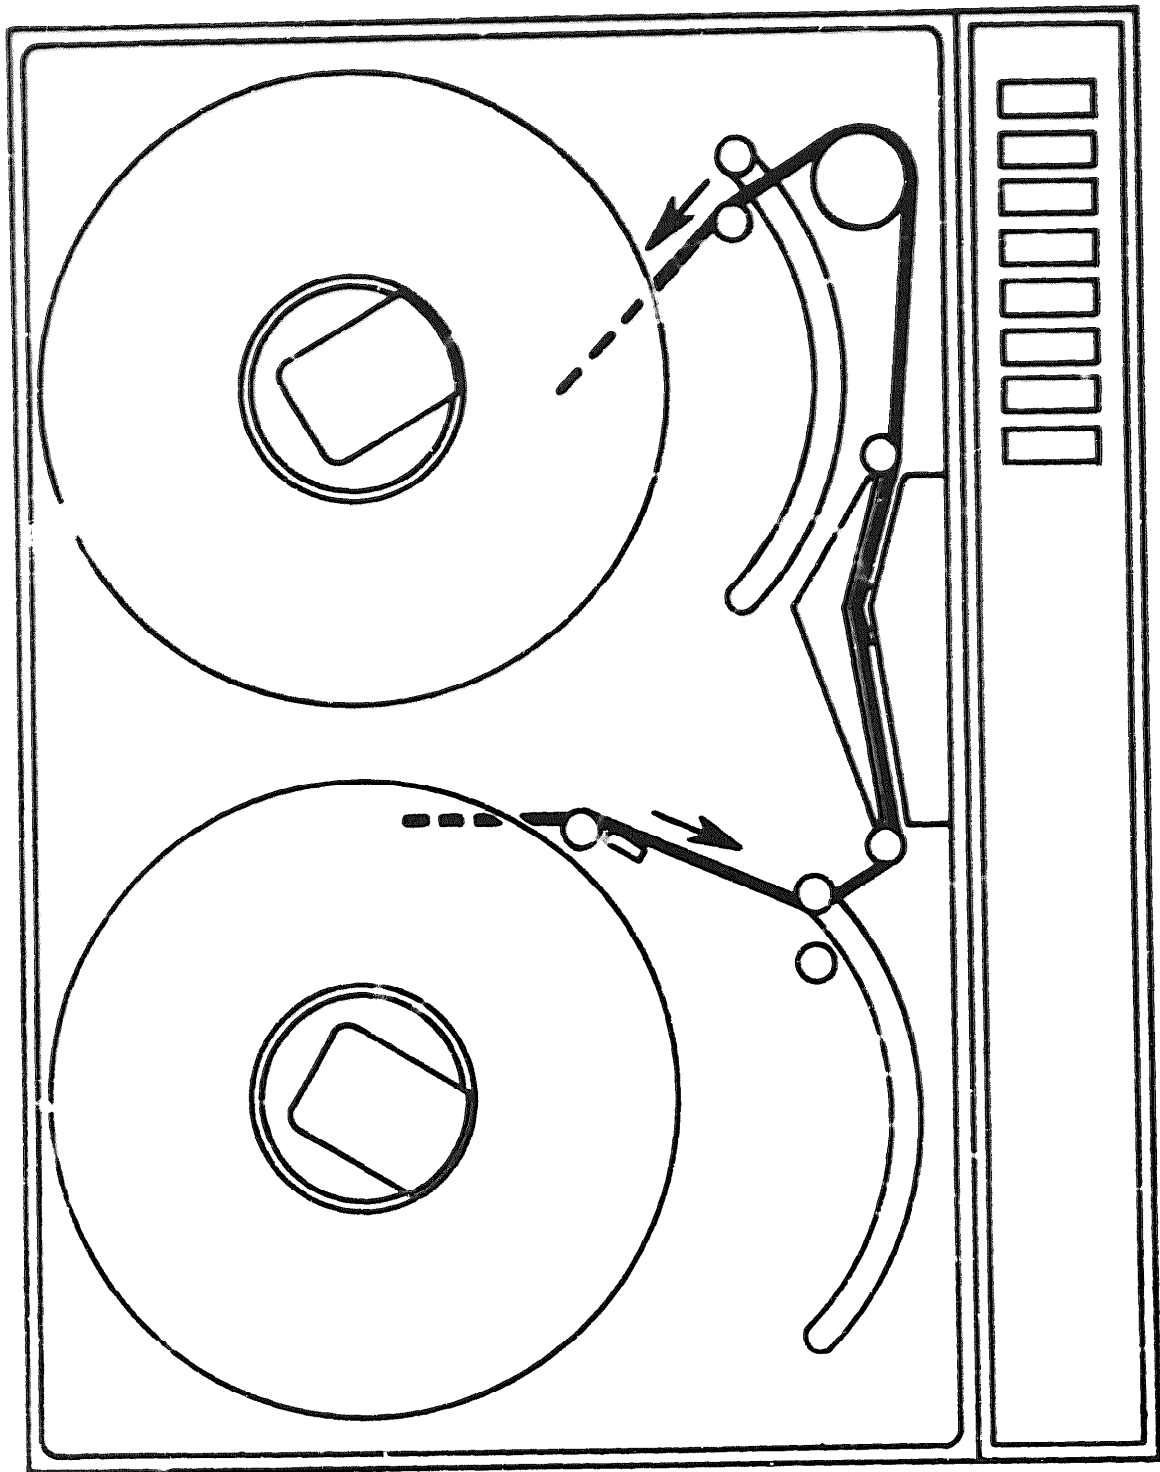

Figure 3-2. Tape Threading Path
3-5. LOADING TAPE (see Figure 3-2).
- d. **Thread tape along the path shown in Figure 3-2. Wrap several turns onto the take-up reel such that tape will be wound on the reel when the reel is rotated in a clockwise direction. Check that tape is correctly seated on the guide and properly threaded through the photo-sensor and head assembly.**